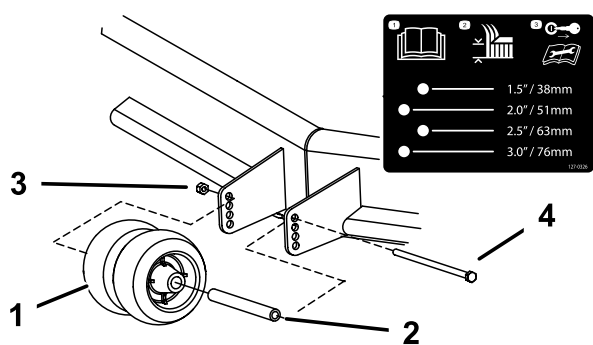

Figure 13
3. Adjust the anti-scalp rollers as shown in Figure 13.